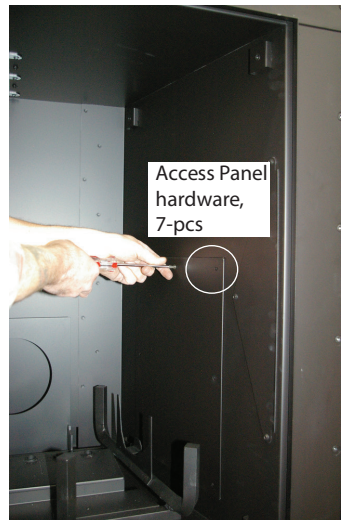

Figure 26. (Removing the panel hardware).
**Step 3.** Having these two steps completed, remove the eight (8) machine screw that hold the Side panels in place, **Figure 26.** (*Philips head screwdriver required*).